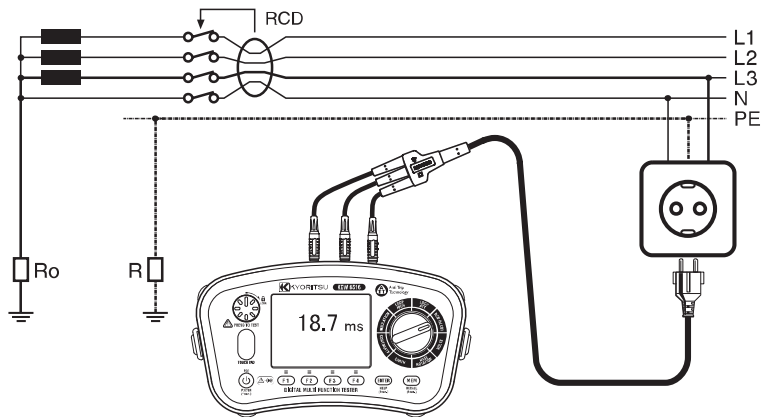

Fig. 11-1
Ground being imperfect in the Fig. 11-1, when R exists, when a fault current flows to R , electric potential occurs. There is a possibility the person contacting in this imperfect ground, it calls the voltage, which it occurs in the human body of this time, called U_c .
(7) Connect the test leads to the circuit to be tested. (Fig. 11-1,11-2, and 11-3)
(8) Wiring Check